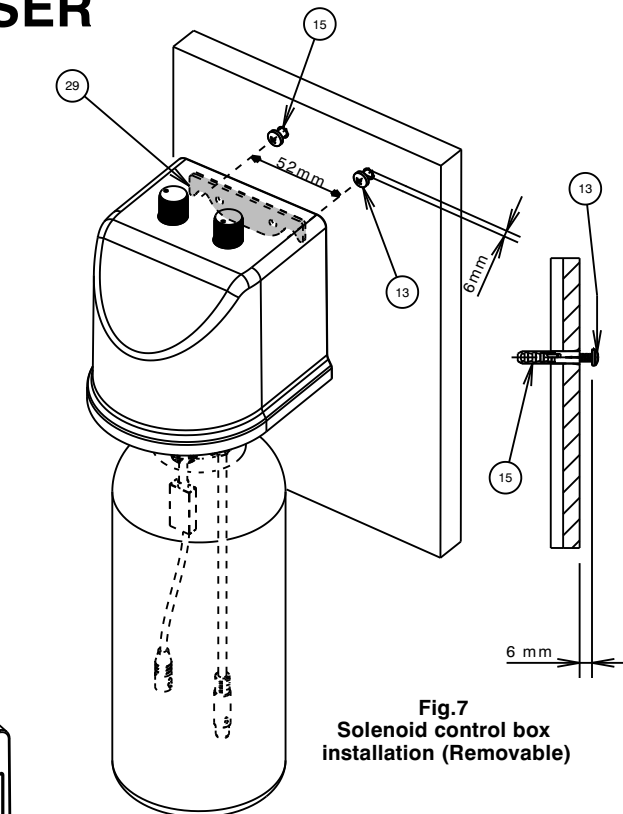

Fig.7
- i) Remove the screws (28) using a phillips head screw driver.
- ii) Remove the wider fixing plate (14) and put it aside.
- iii) Take the narrower fixing plate (29) out of the bag, fit it at the back of the control box (12) by aligning the holes on the fixing plate (29) with the holes at the back of the control box (12). The cut-outs on the plate should be towards the bottom, as shown in Fig.7.
- iv) Fit the screws (28) and tighten, DO NOT OVERTIGHTEN.
- i) Drill two Ø6mm holes, 40mm deep and 52mm apart horizontally as shown in Fig. 7.
- ii) Insert small end of wall plugs (15) into drilled holes and tap until flush with wall/tile face.
- iii) Insert screws (13) into wall plugs, screw them until the head is 6mm away from wall/tile face as shown in Fig. 7.
- i) Drill two holes at 52mm apart horizontally to suit the self tapping screws supplied as shown in Fig. 7.
- ii) Insert screws (13) into the holes, screw them until the head is 6mm away from wall/tile face as shown in Fig. 7.
- iii) Mount the control box (12) onto the screws (13).